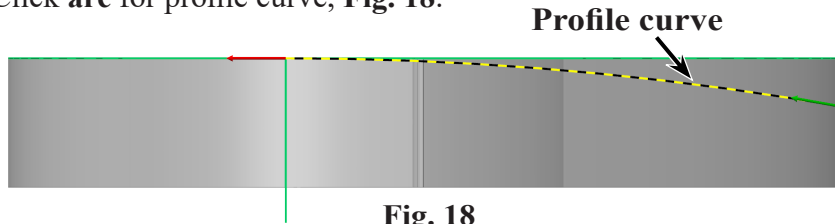

Fig. 18
Step 3. Click **arc** for profile curve, **Fig. 18**.